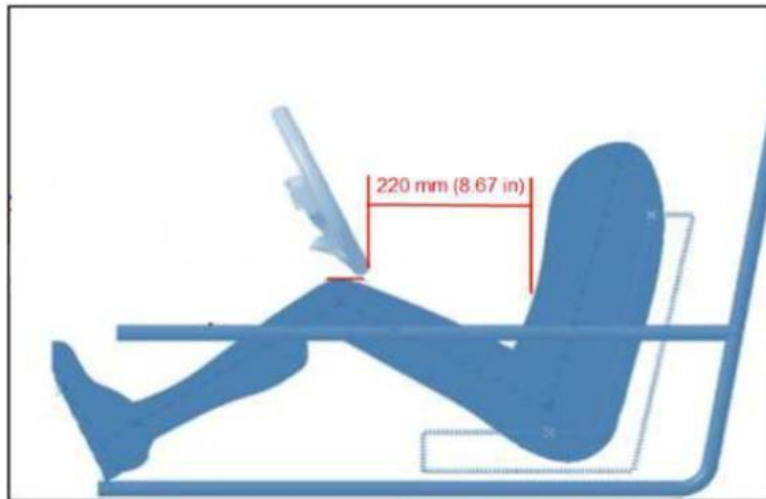

Figure B- 71: Driver's Chest Clearance
There must be a minimum clearance (RA) of 220mm between the driver's chest, upper body/torso, helmet, and the steering wheel at all possible rotations of the steering wheel, as illustrated in Figure B-71. Also, there must be a minimum clearance of 70 mm between the steering wheel and knees of the driver.